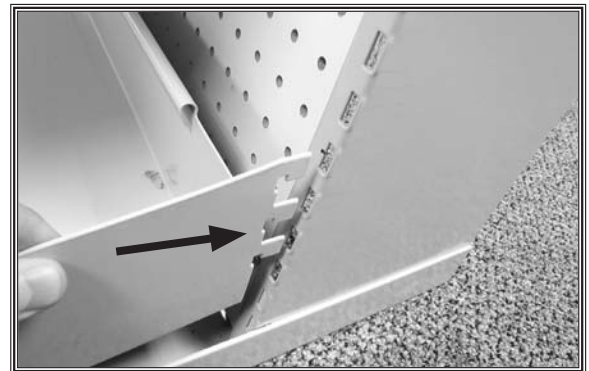

Figure 21. Installing the connecting flanges into the notched holes.
3. Insert the three flanges on each side of the shelf (see **Figure 21**) into the appropriate holes, one side at a time. When both sides of the bin have been inserted into place, the flanges will lock into their respective holes.